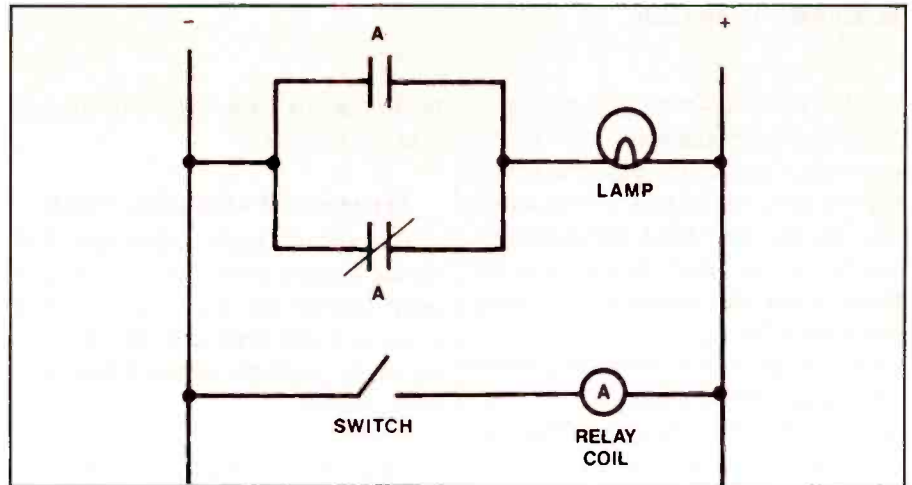

Figure 2.
7. In the relay circuit of Figure 2 when